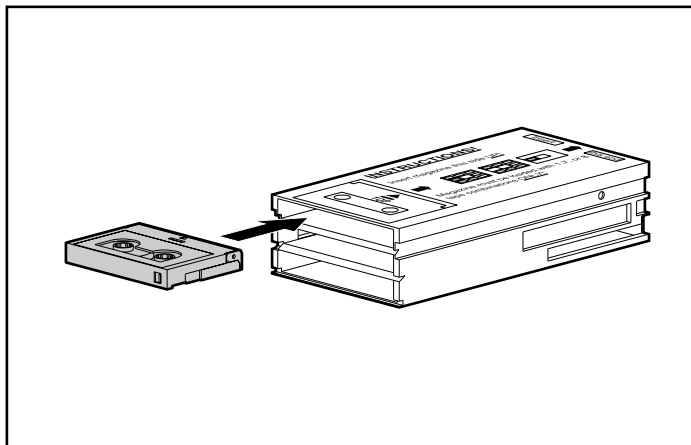

Figure 4-7. Inserting cassettes 4,5,6 and 7 into the magazine (Slot 1)
2. Insert the next four data cassettes in positions: 4, 5, 6, and 7 (in slot 3). See Figure 4-7.